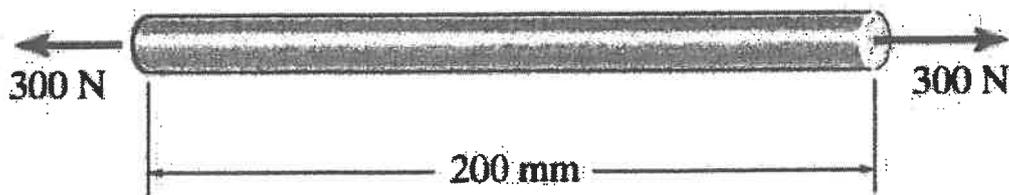

Figure 4: Acrylic Plastic Rod
*Refer Below - Figure4 : Acrylic Plastic Rod .*